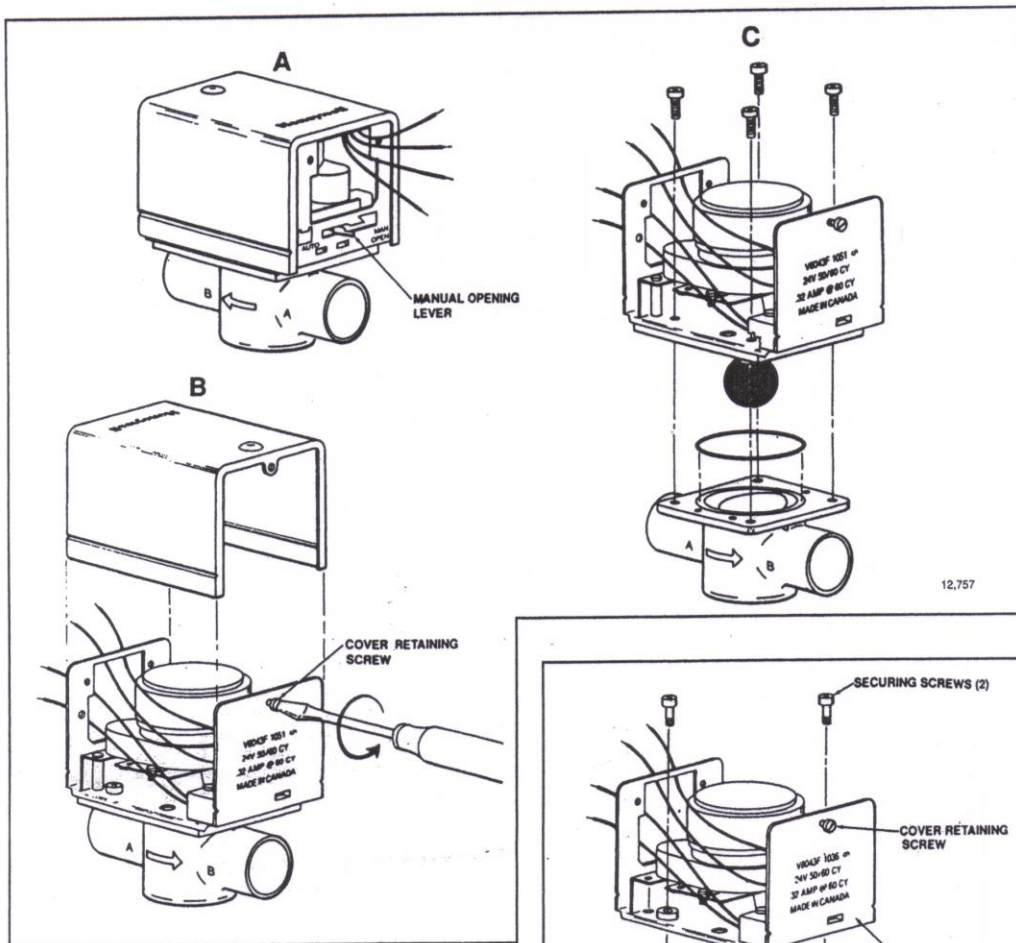

Fig. 4
2. Push the manual opening lever to the “MAN. OPEN” position (see Fig.4-A).
3. Remove the front screw securing the cover to the power head and lift the power head off (see Fig.4-B).